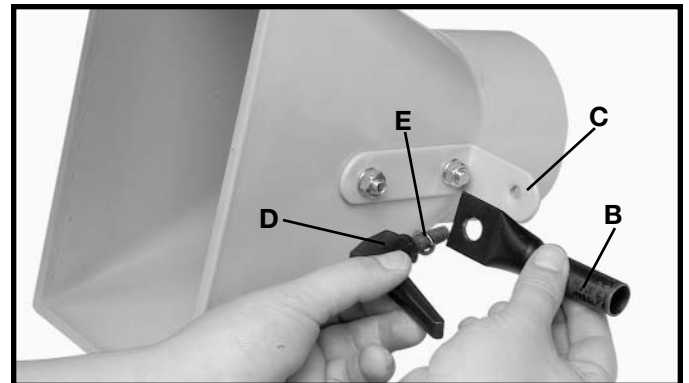

Fig. 13
7. Attach the upper support bracket (B) Fig. 13 to the intake support angle brace (C) with the adjustable locking lever (D). **NOTE: PLACE A 5/16" LOCKWASHER (E) FIG. 13, ONTO LOCKING LEVER SCREW BEFORE ATTACHING TO THE INTAKE SUPPORT ANGLE BRACE.**